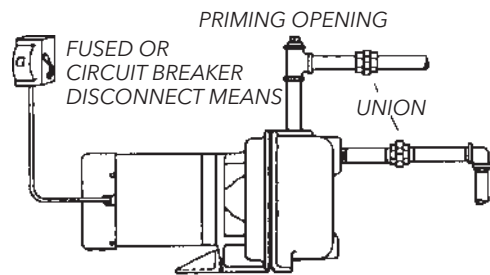

Figure 1
- Install an airtight union in the suction line close to the pump. See Figure 1.
- Install a tee at the discharge connection of the pump. The top opening of the tee is required for initial priming. See Figure 1.
- Prime pump by filling pump and piping through opening in top of tee with clean water. See Figure 1.